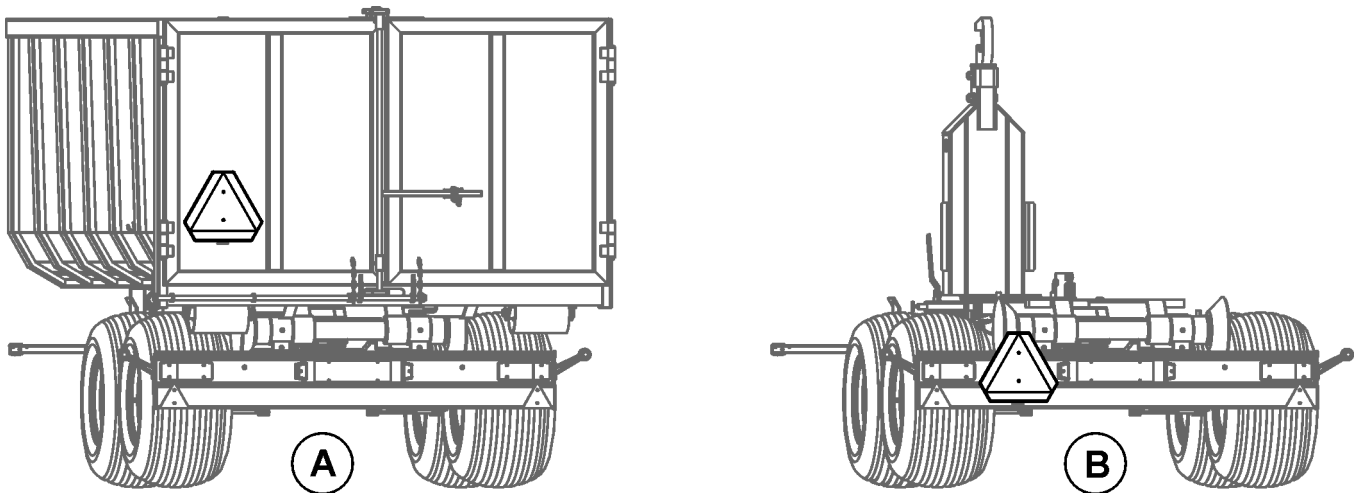

FIG. 3. LOCATION OF A TRIANGULAR PLATE FOR SLOWLY MOVING VEHICLES.
- Rear wall should be equipped with a triangular plate for slowly moving vehicles, if the trailer is the last vehicle in a set (Fig. 3).